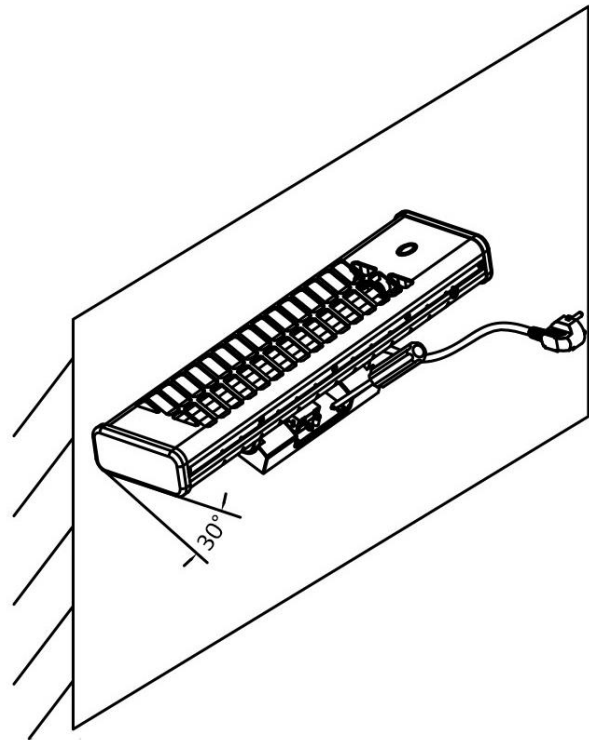

Fig.6
7. Swing the heater on the wall all the way up, and then tighten with two screws at the bottom of the wall mount. (See Fig. 6) Now the heater is securely fixed to the wall.